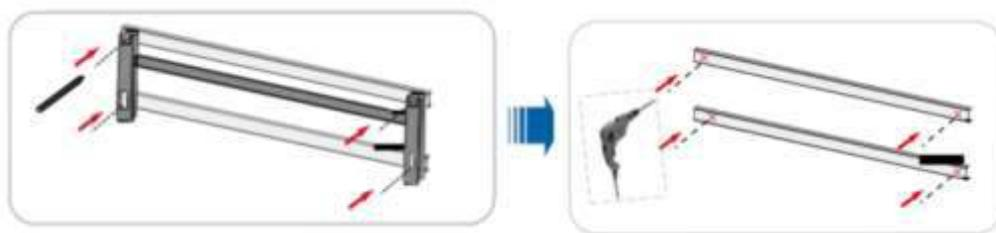

Fig. 4-11 Level the assembled mounting-bracket and mark the positions for drilling holes
- 2) Level the assembled mounting-bracket by using the level, and mark the positions for drilling holes on the PV bracket. Drill the holes by using a hammer drill (Fig. 4-11).
- 2) Level the assembled mounting-bracket by using the level, and mark the positions for drilling holes on the installation site. (Fig. 4-11).